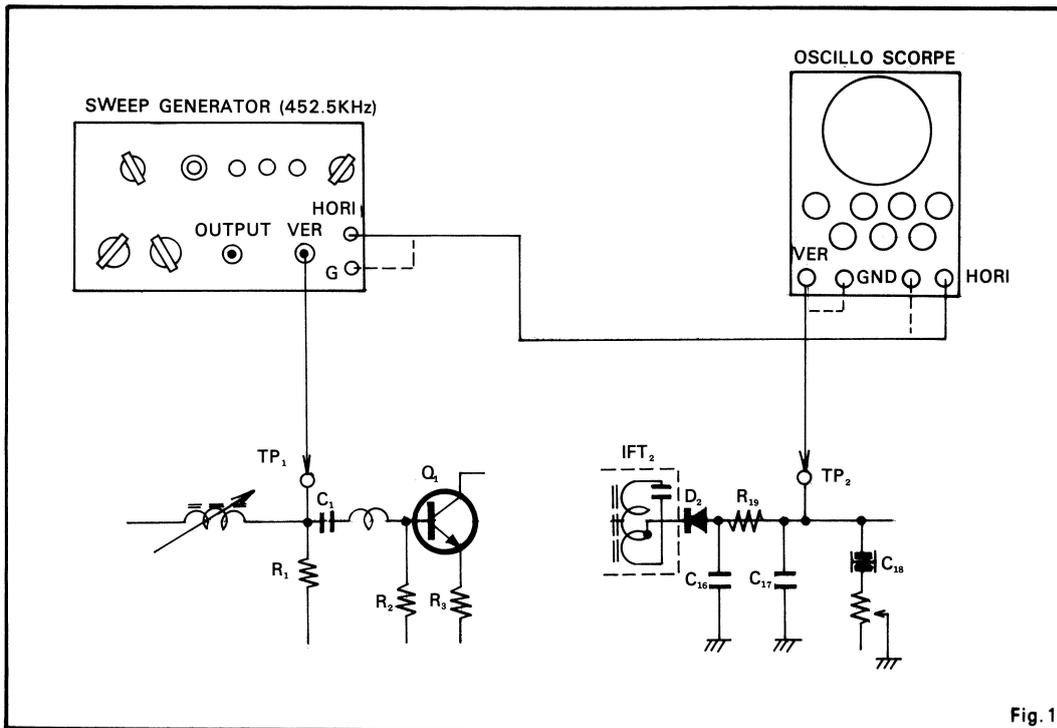

Fig. 1
1. Make the connections as shown in Fig. 1. Set the sweep generator to 262.5KHz and obtain a proper IF waveform on the oscilloscope.
- a. Connect the oscilloscope vertical input of Fig. 1 to TP3.